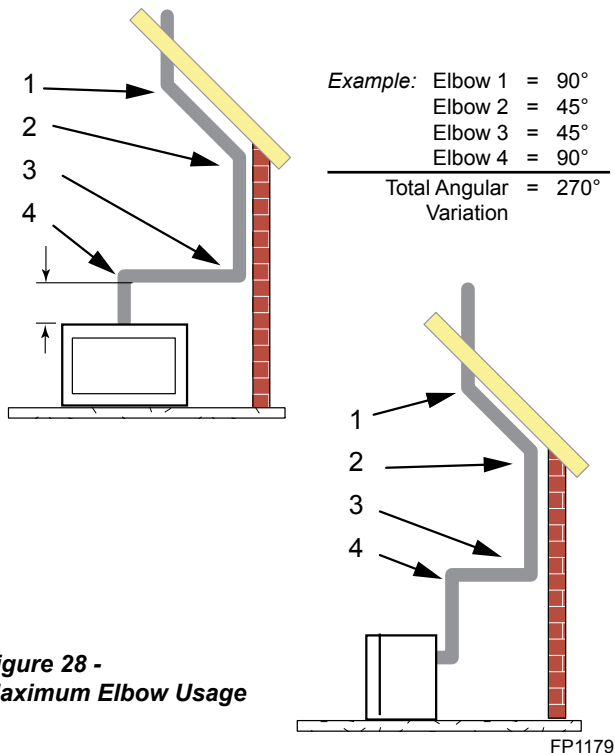

Figure 28 - Maximum Elbow Usage
- Two sets of 45° elbows offsets may be used within the vertical sections. From 0 to a maximum of 8' (2.5 m) of vent pipe can be used between elbows. *Figure 28*
- The maximum angular variation allowed in the system is 270°. *Figure 28*